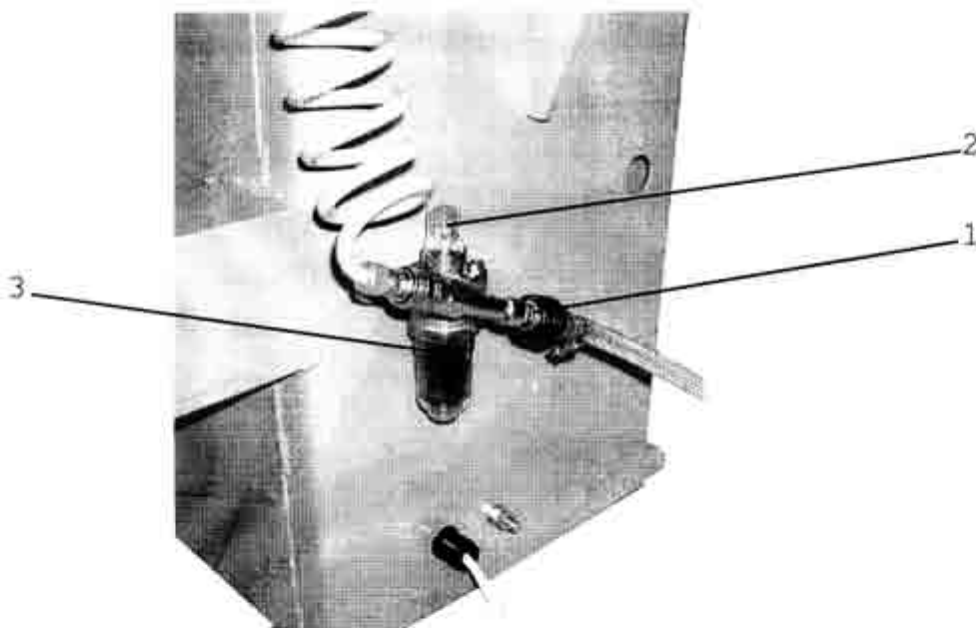

Fig.1. Connections
3. Connect compressed air supply hose to air supply union (item 1, Fig.1.) Use a pneumatic hose rated min. 1 MPa working pressure, inside diameter 8mm . Check if lubricator 5 is filled with oil. Depressing pedal 16 check if clamping joints move.
Periodically, top-up compressed air lubricator (item 4, Fig 1) with oil. .